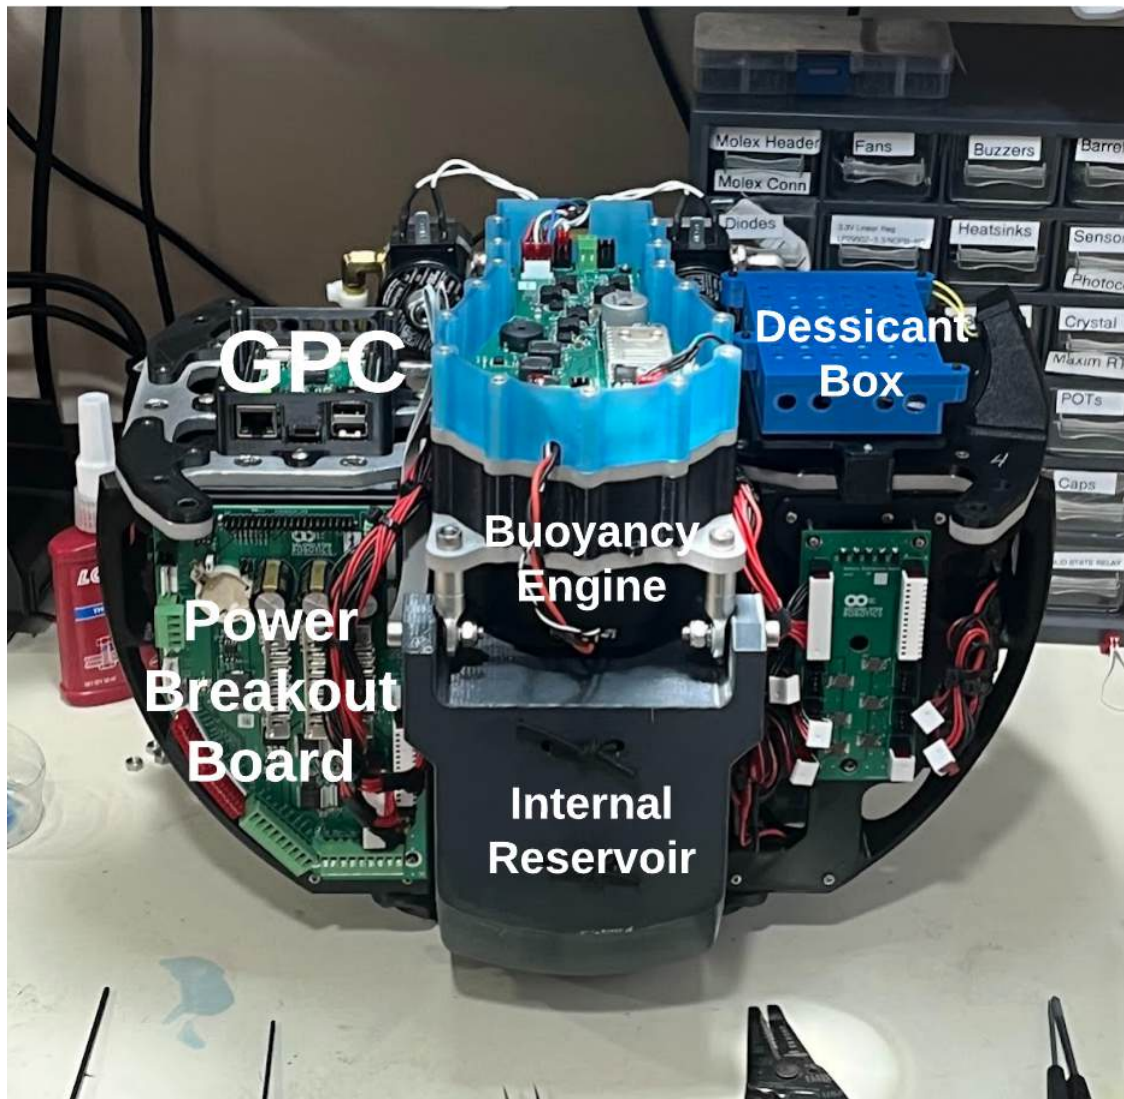

Figure 10.5: The internal assembly resting on a workbench with major components labeled.
2. Replace desiccant inside the Desiccant Box (see Figure 10.5) with fresh desiccant.